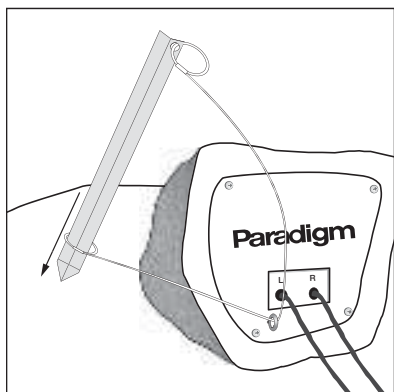

Fig. 9
3. Feed the spike (with attached cable) through the loop. Once spike and most of the cable are through, pull gently on cable until it is snug around the eyelet. (Fig. 9)